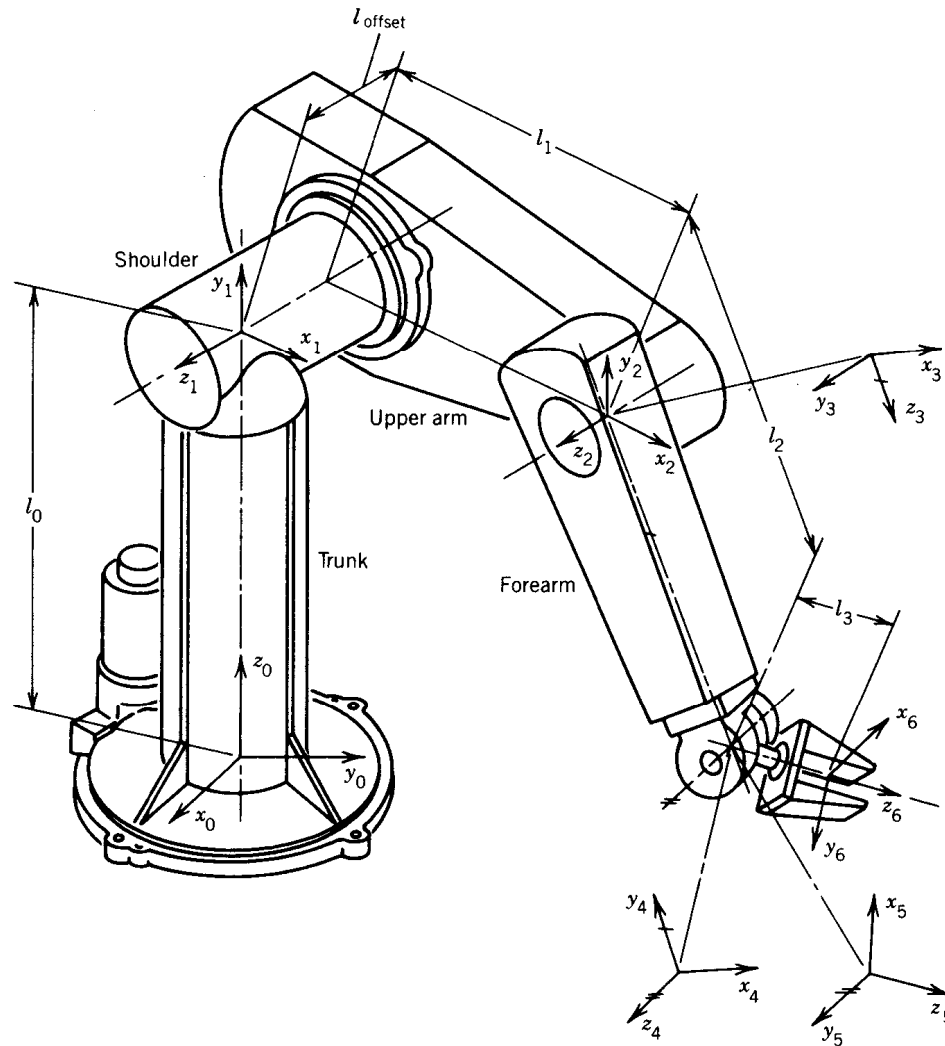

Figure 1 PUMA 600
2. Figure 1 shows a six degree-of-freedom robot manipulator PUMA 600. PUMA stands for “Programmable Universal Machine for Assembly”. It is originally a part of a 1975 development project at General Motors Corp. It was later commercialized by Unimation, Inc. The coordinate axes are assigned to each link according to the Denavit-Hartenberg convention.